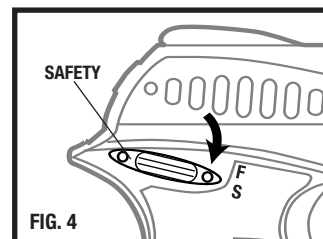
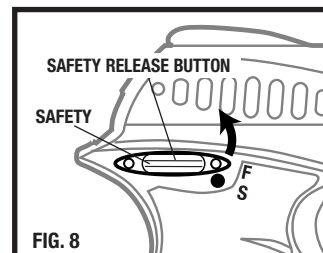

FIG. 4
FIG. 8
1. Put safety "ON SAFE" (S) - red dot covered (Fig. 4).
WARNING: Be sure gun is always pointed in a safe direction. **Step 1. PUT SAFETY "ON SAFE" (S) - RED DOT COVERED.** Rotate safety lever toward the "ON SAFE" (S) position (Fig. 4). With the safety in this position, the trigger CAN be pulled although the gun will not discharge any CO2 or ammunition. **NOTE:** The safety is manual and not automatic. It will only do its job when you do yours. **REMEMBER, THE BEST SAFETY IS GOOD GUN HANDLING.**
Step 4. TAKE SAFETY "OFF SAFE" (F) - RED DOT SHOWING. When you are certain that the target, back stop and surrounding area are safe, take the gun "OFF SAFE" (F) by sliding the safety release button toward the rear and rotate the safety lever toward the "OFF SAFE" (F) position (Fig. 8). Your gun is now ready to shoot. Pulling the trigger now will shoot a projectile out of the gun. In this condition, your gun should be handled with extreme care.
1. Safety is pointing to "OFF SAFE" (F) position.
2. Put safety "ON SAFE" (S) (Fig. 4) and check to see that a CO2 cylinder with sufficient CO2 gas is installed and the puncture lever is fully closed.
1. Put safety "ON SAFE" (S) - RED DOT COVERED (Fig. 4).